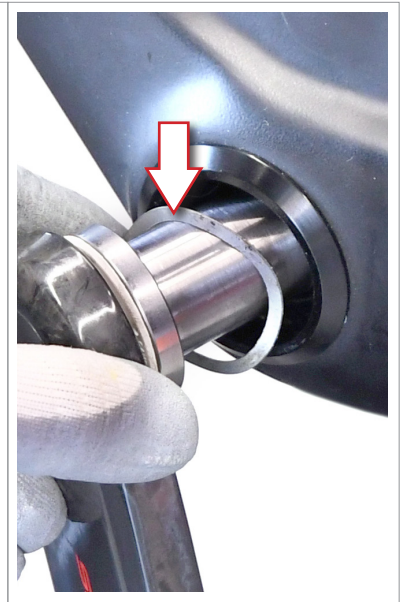

Fig.6
• Insert the wave washer (Fig.6) in the space for the left bottom bracket cup bearing.